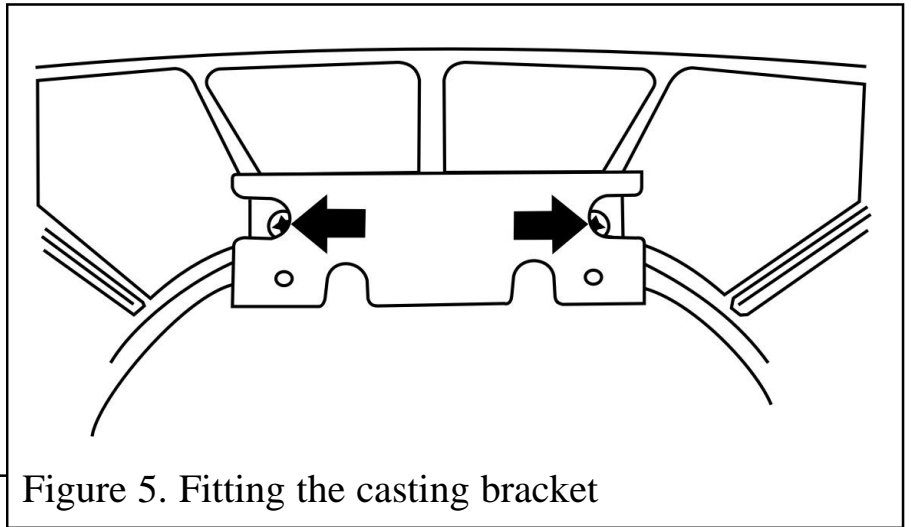

Figure 5. Fitting the casting bracket
- Secure the bracket to the underside of the casting. To do this place the casting face down on a flat surface. Locate the bracket as in figure 5 and secure with the two screws supplied.